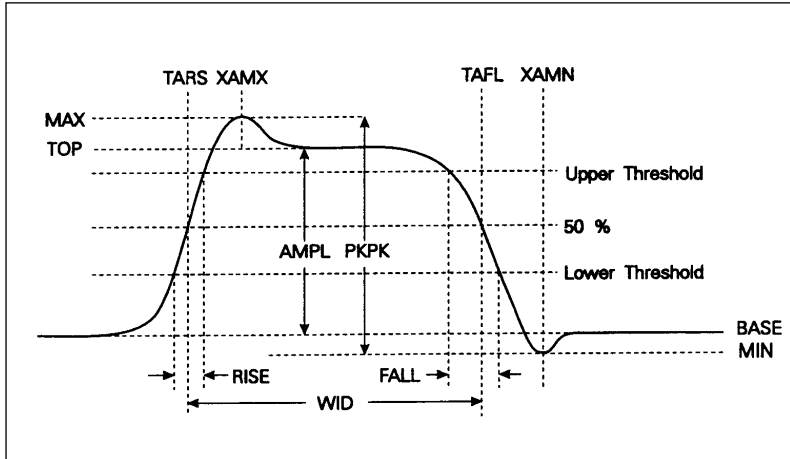

Figure A-1
Diagram: Figure A-1
- Diagram:** Figure A-1
Diagram:	<p>Figures A-1 and A-2</p>